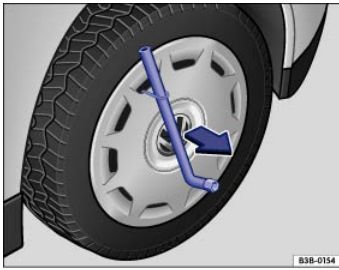

Fig. 178 Pulling the wheel cover off.
- Slide the lug wrench through the clip ⇒ Fig. 178 and pull the wheel cover off in the direction of the arrow.